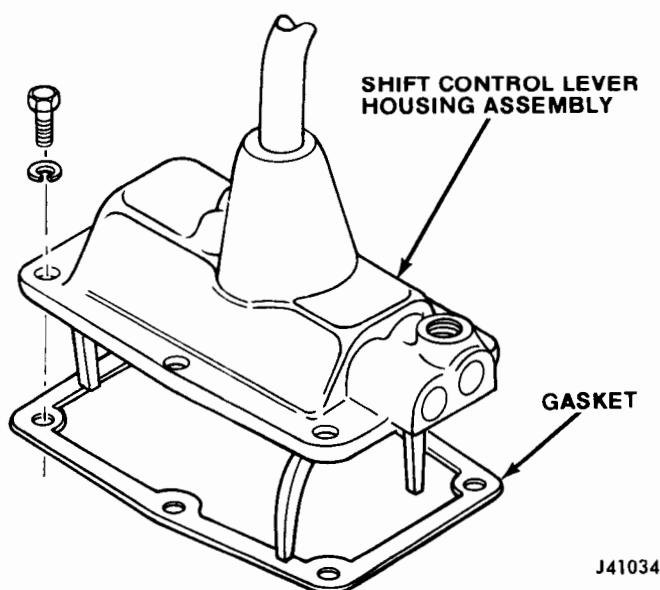

Fig. 6-1 Shift Control Lever Housing Assembly Removal—3-Speed Transmission (T-15 Shown)
- (1) Remove shift lever knob, trim ring, and boot.
- (2) Remove floor covering and transmission access cover from floorpan.
- (3) On Cherokee and Truck models with T-15A 3-speed transmission, remove shift control lever housing assembly (fig. 6-1).